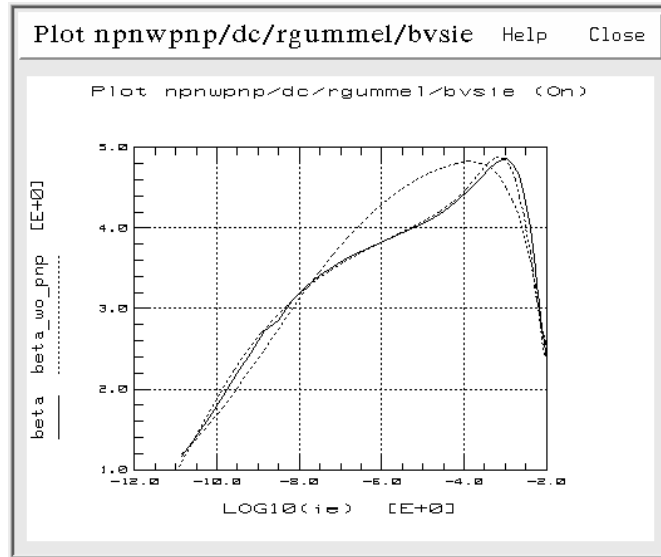

Figure 223 Reverse Beta versus i_b for Single NPN and Compound NPN-PNP Structure
The input stage contains transistors Q1 and Q2 connected as a differential amplifier, biased with a fixed current source (see Figure 223). Q1 and Q2 provide both differential mode (DM) and common mode (CM) characteristics. Passive components in the input stage provide slew rate effects (C2, Ce, Re1, Re2), 0dB frequency control (Rc1, Rc2), DM excess phase (C1), and CM input resistance (R1).